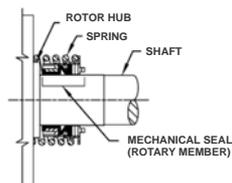

Figure 6. NG-GG4195, NG-HJ4195, NG-HL4195
4.- Place the seal spring on the shaft against the rotor hub. Refer to Figures 6 and 7.